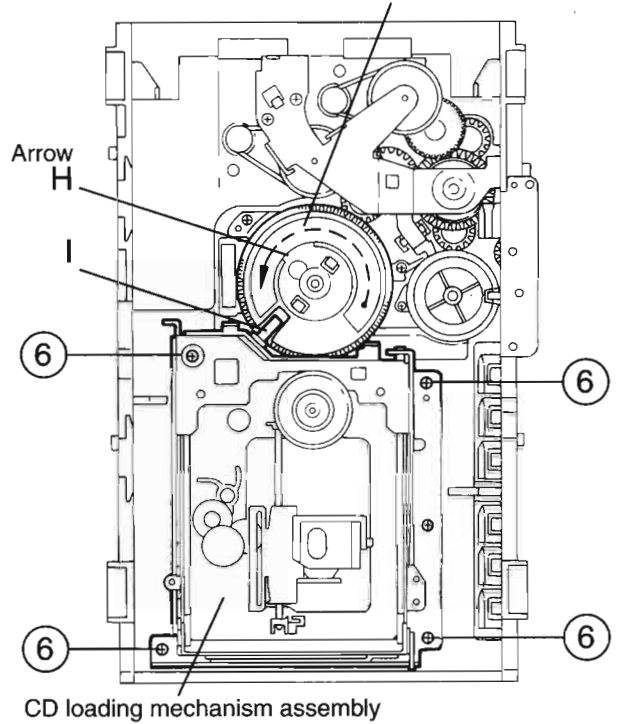

Fig.10
■ Removing the CD loading mechanism assembly (See Fig.10)
1. While turning the cams R1 and R2 assembly in the arrow direction "H", align the shaft "I" of the CD loading mechanism assembly to the position shown in 2. Fig.10.